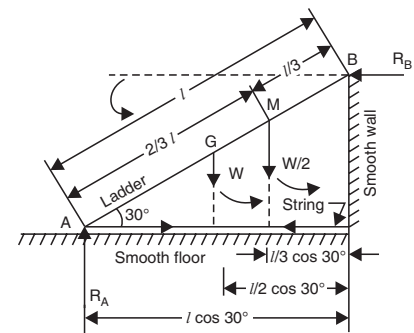

Fig. 3.48
**Case II.** Refer to Fig. 3.48. *M* shows the position of man having weight  $\frac{W}{2}$  (one-half the weight of ladder  $W$ ). The ladder is in equilibrium under the action of the following forces :